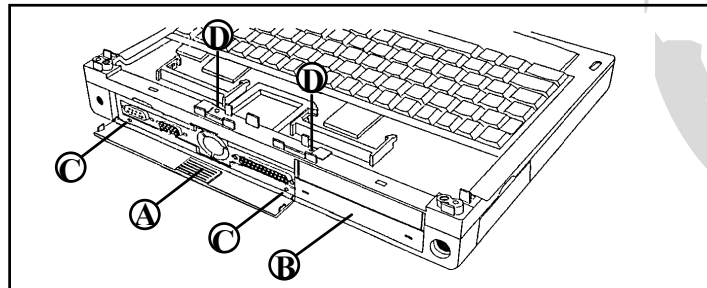

FIGURE 8-1
6. REMOVE THE I/O CONNECTOR COVER (FIGURE 8-1 A) AND THE EXPANSION CONNECTOR COVER (FIGURE 8-1 B). BEND THE COVER SLIGHTLY TO DEATCH IT FROM THE REAR PANEL.
7. REMOVE THE TWO REAR PANEL SCREWS (FIGURE 8-1 C) AND TWO TOP SCREWS (FIGURE 8-1 D).